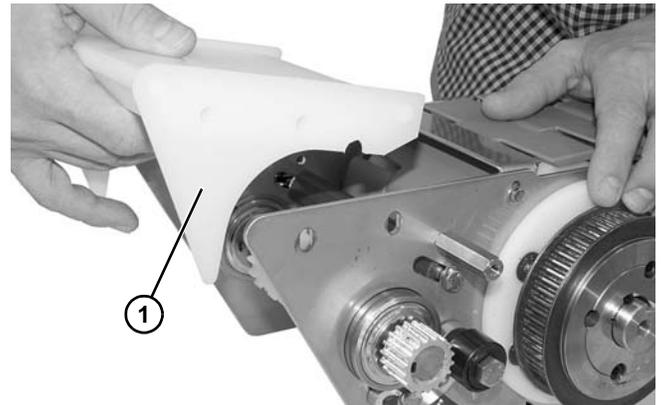

Figure 65
10. Remove wear bar assembly (Figure 65, item 1) from power transfer.